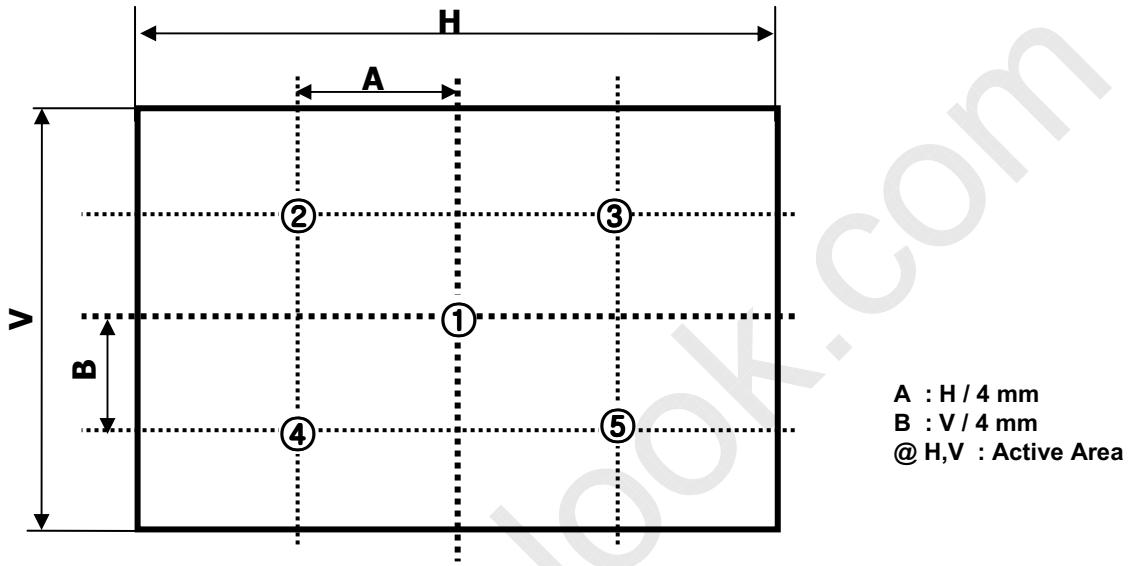

FIG. 2 5 Points for Luminance Measure
n = the Position number(1, 2, 3, 4, 5). For more information, see FIG 2.
2. Surface luminance are determined after the unit has been 'ON' and 30min after lighting the backlight in a dark environment at 25± 2°C. Surface luminance is the luminance value at center 1-point across the LCD surface 50cm from the surface with all pixels displaying white. For more information see the FIG. 2.
For more information, see the FIG. 2.